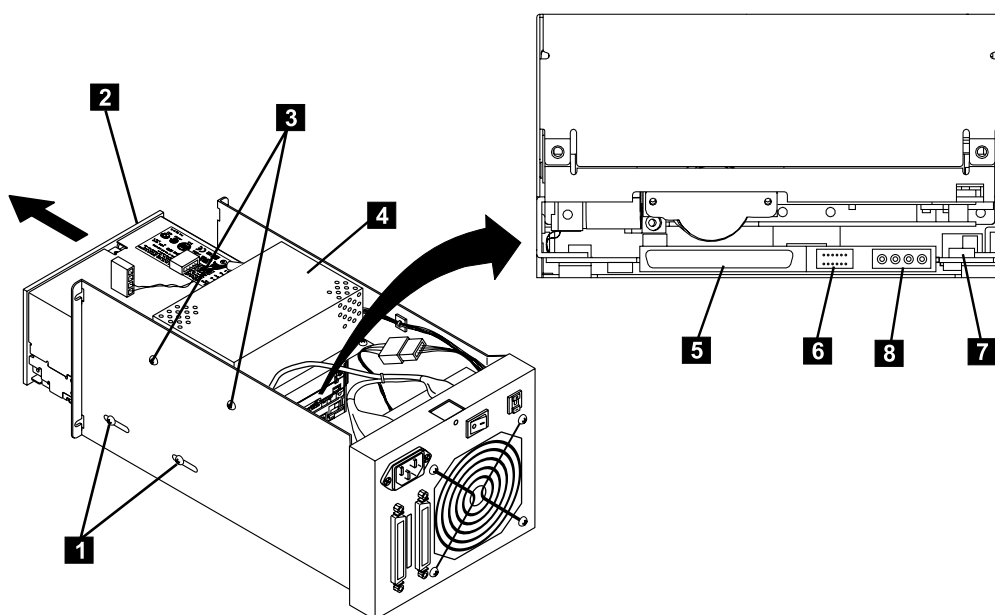

Figure 25. Removing the internal drive from the 3580 Tape Drive. The figure that is indicated by the arrow depicts the rear of the internal tape drive.
- f. Remove the four screws that secure the drive to the chassis (two screws on each side; see **1** in Figure 25).
- h. (Optional) For better access to the drive's connectors, remove the four screws (two screws on each side; see **3** in Figure 25) that secure the power supply **4** and gently move power supply aside.